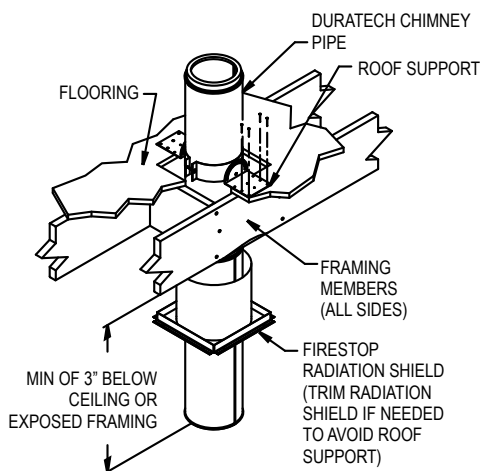

Figure 22
Support: The Roof Support may be used at the bottom of a Chimney installation (**Fig 22**). This may be useful for some basement installations. Maintain a minimum of 2" clearance to combustibles at all times. The DuraTech Chimney needs to extend a minimum of 3" below the finished ceiling or exposed framing members. Please note that you cannot extend the chimney all the way to the appliance - you must have some connector pipe.
2. Bolt on the Roof Support Brackets to the Roof Support Band using the supplied hardware. Attach the Roof Support Brackets to floor using (4) 8 penny nails or (4) #8, 1-1/2" screws per side (**Fig 22**).